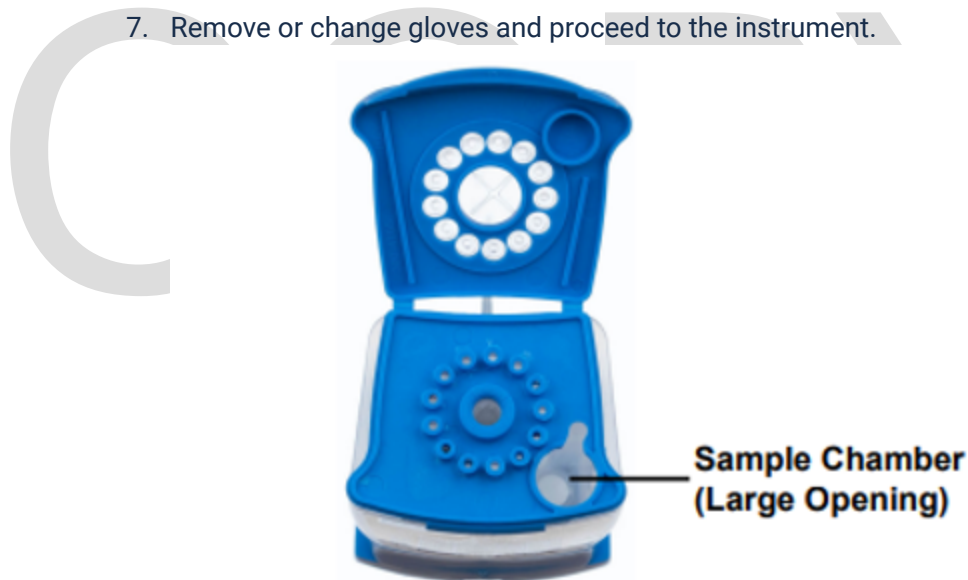

Figure 1. Cepheid Xpert Xpress SARS CoV2 *plus* Cartridge (Top View)
3. Using a clean transfer pipette, transfer one draw of the external control sample into the large opening (Sample Chamber) in the cartridge shown in Figure 1.
5. Open the cartridge lid. Using a clean 300mcL transfer pipette (supplied in kit), transfer 300mcL (one draw) of the specimen from the transport medium tube to the sample chamber with the large opening (figure 1)